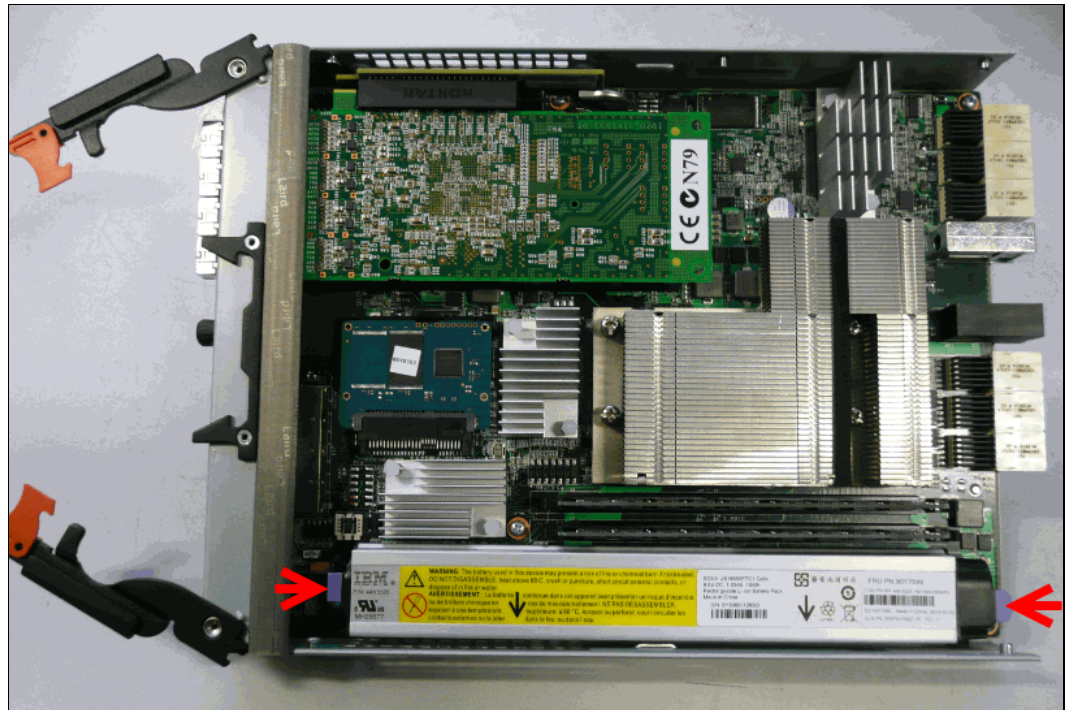

Figure 12-12 BBU replacement: Step 1
1. Grasp the blue touch points on each end of the battery, as shown in Figure 12-12.